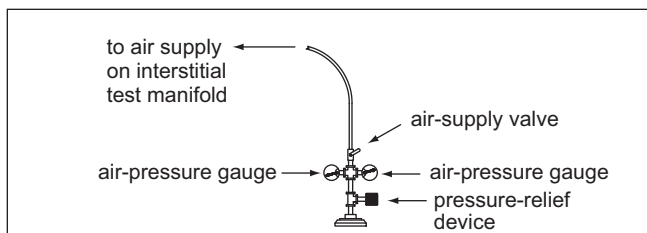

FIGURE 3-2
1.3.1.7. a test manifold for each air-testable tank or compartment—see *FIGURE 3-2*
3.4.3. Construct a test manifold with two pressure gauges as shown in *FIGURE 3-2*. Each pressure gauge must have a maximum full-scale reading of 15 psig with graduations in 1/2 psig increments, and a pressure-relief valve set at 6 psig (4 psig for 12-foot-diameter tanks).
3.4.3.1. When air testing multicompartment tanks, a test manifold is needed for each compartment. See *FIGURE 3-2*.
3.4.3.2. A test manifold is needed for testing the dry interstitial space of an air-testable, double-wall tank. See FIGURE 3-2.